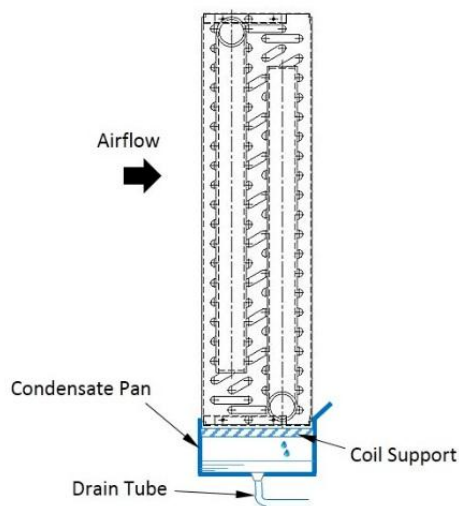

Fig.3
- Install condensate pan drip tray below coil (sold separately) (Fig. 3).